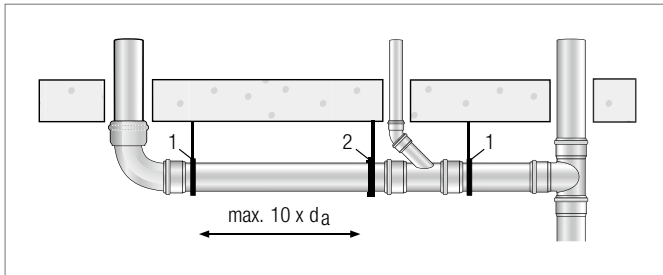

Fig. 7-5 Installation plan for horizontal pipeline
A plan for effective bracketing of a horizontal sound-insulating pipe with RAUPIANO PLUS is displayed graphically (see Fig. 7-5).
- The distance between the fixing clamp and the guiding clamps may not exceed ten times the pipe outer diameter d_a (see Fig. 7-5):